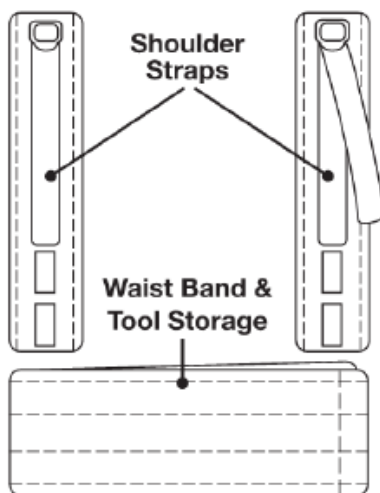

FIG 13
3. Correctly place shoulder straps on each shoulder and secure the waist band with hook and loop strips. (Fig.13)